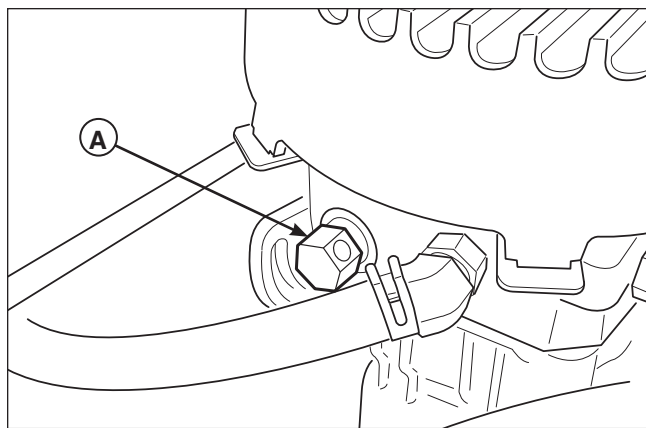

Figure 4. Hydraulic System By-Pass
3. To disengage the pumps (free-wheel position), turn the hydraulic release valves (**A**, **Figure 4**) located on the pumps **counter-clockwise** a maximum of 2 full turns.